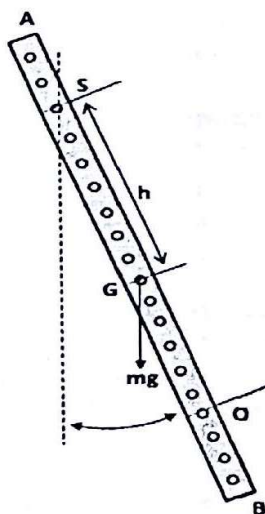

Fig. 5.1: Compound Pendulum
where I is the pendulum's rotational inertia about the pivot, m is the pendulum's mass, and h is the distance between the pivot and the pendulum's centre of gravity as shown in Fig. 5.1.
A compound pendulum that oscillates from a suspension point (S) with period T (as shown in Fig. 5.1) can be compared with a simple pendulum of length L with the same period T . L is called the equivalent length of the compound pendulum. The point along the compound pendulum at a distance L from the suspension point is called the oscillation point (Fig. 5.1). In a compound pendulum these two points are interchangeable. Now using the time period expression of a simple pendulum,